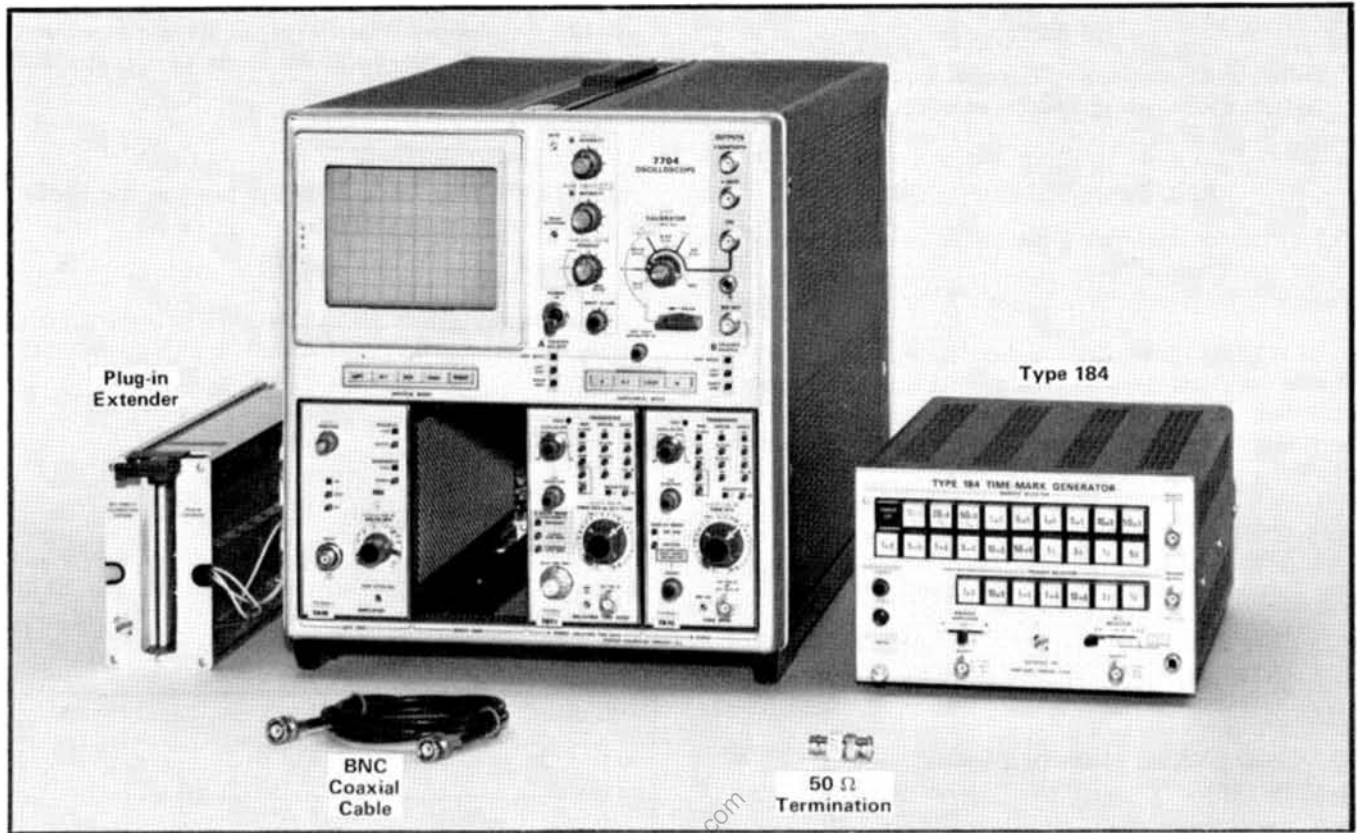

Fig. 5-6. Test equipment required for Steps 17 through 25.
- a. Test equipment required is shown in Fig. 5-6.